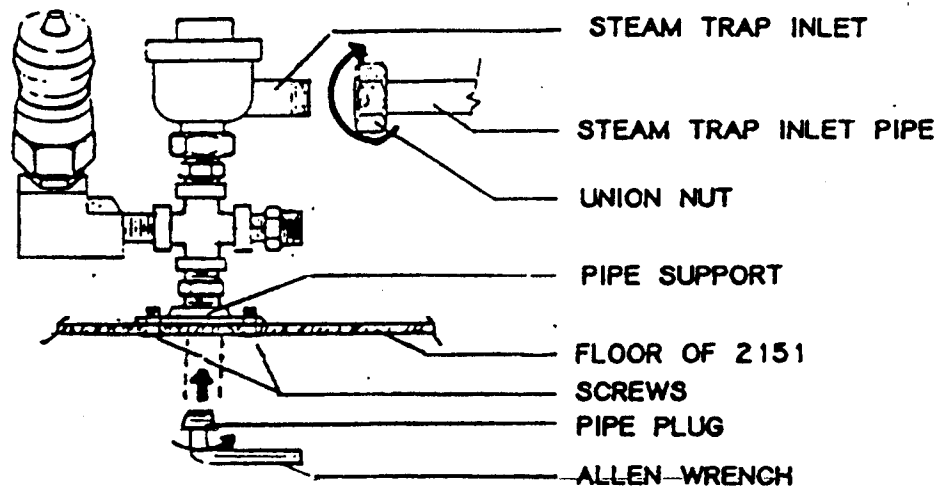

Figure 2-5. Steam Trap Assembly Installation.
f. Steam trap assembly installation: Reattach the pipe support to the 2151 floor (figure 2-5) using the two 1/4-20 screws removed earlier. Attach the steam trap inlet pipe to the steam trap inlet and tighten the union nut. Apply teflon tape to the pipe plug and insert the plug into the floor of the 2151 and the bottom of pipe support. Tighten using the allen wrench.